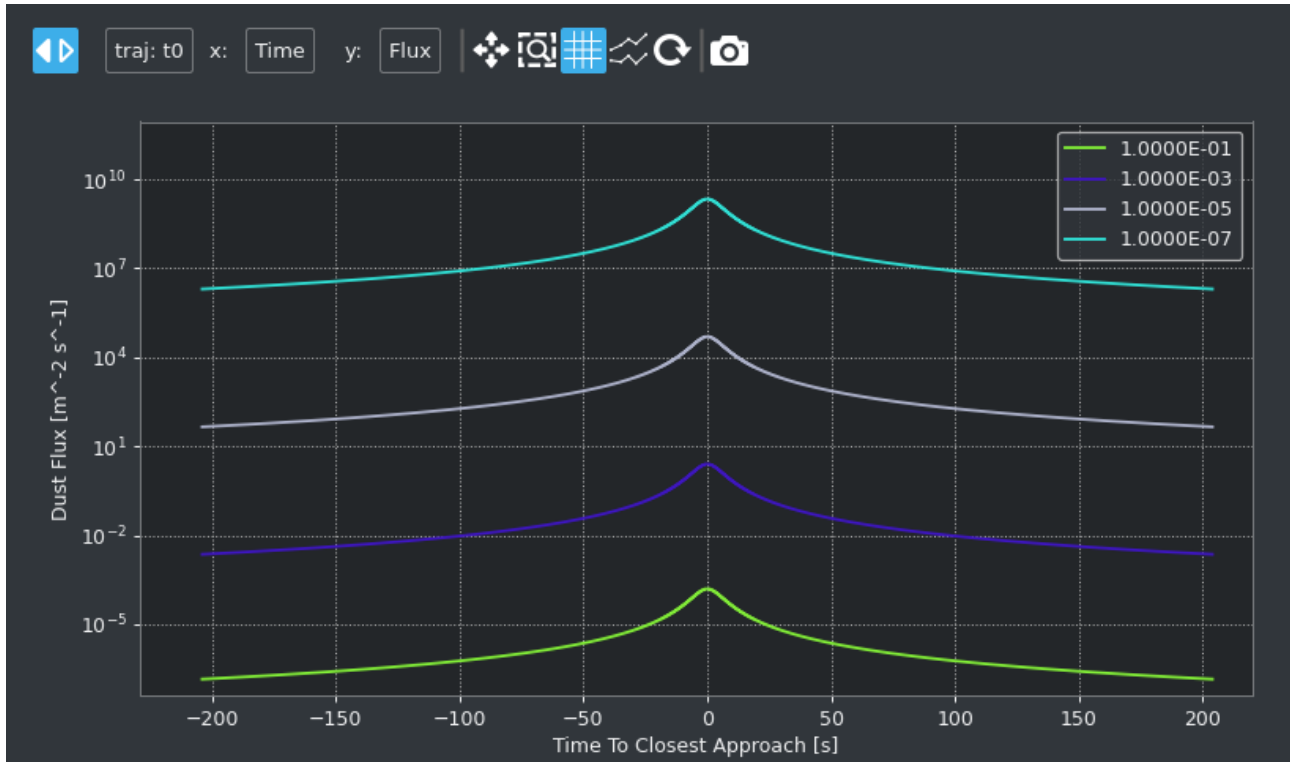

Figure 13: ComMoDE Visualization Environment - bin sizes mode
- Toggled ON: enable the specular visualization mode (*bin sizes*), e.g. once a particular trajectory is fixed, the User can plot simultaneously data referring to one or multiple bin sizes of the particle size distribution. See an example in figure 13.